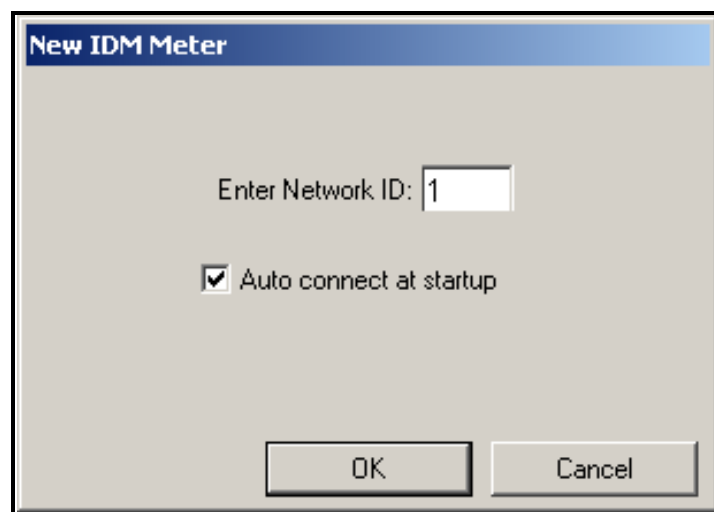

Figure C-5: New IDM Meter Screen
4. The “*New IDM Meter*” screen (shown in Figure C-5 below) opens. Enter the Network ID number for the meter, and click [OK].
1. Highlight the meter (as shown in Figure C-5 on the previous page).